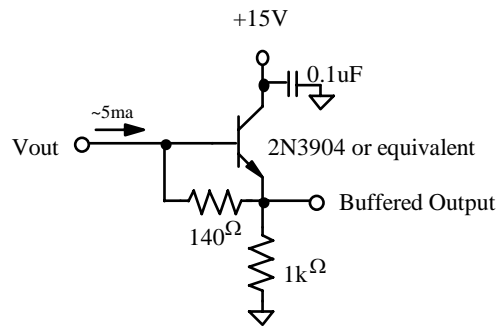

Figure 2: Output Structure Load Diagram
Charge presented to the floating diffusion (FD) is converted into a voltage and current amplified in order to drive off-chip loads. The resulting voltage change seen at the output is linearly related to the amount of charge placed on FD. Once the signal has been sampled by the system electronics, the reset gate ( $\Phi_R$ ) is clocked to remove the signal and FD is reset to the potential applied by VRD. More signal at the floating diffusion reduces the voltage seen at the output pin. In order to activate the output structure, an off-chip load must be added to the Vout pin of the device - Figure 2